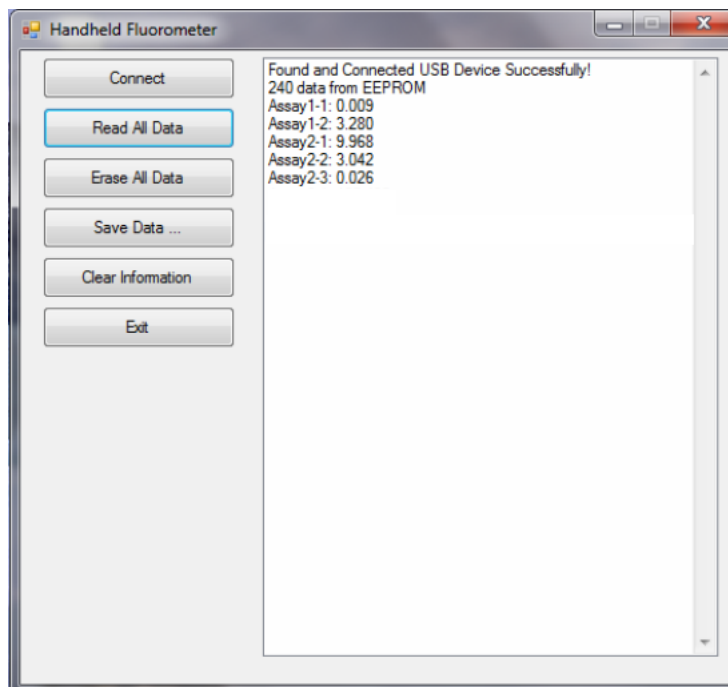

Figure 18. Access and manage saved data
- c. Click “**Read All Data**” button to read and display all saved data in the fluorometer as shown in Figure 18. The example shows that Channel#1 has 2 data points and Channel#2 has 3 stored in the memory.